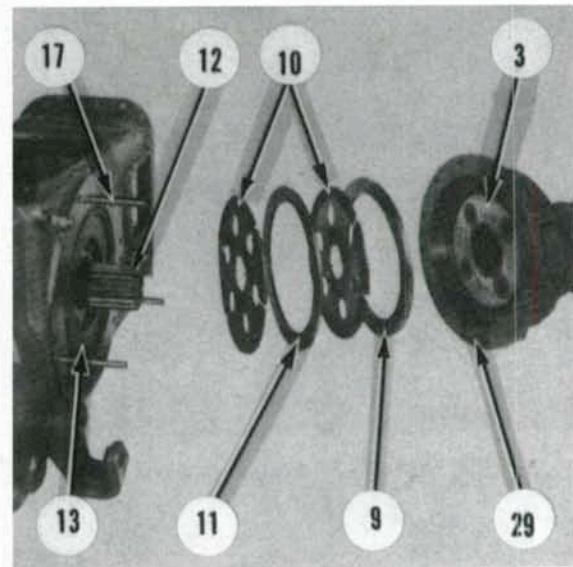

Fig. 250—View of Model TW-35 brake components. A single brake disc (10) is used on Models TW-5, TW-15 and TW-25.
**180. BRAKE PISTONS AND DISCS.** To remove brake pistons and discs on all models, refer to procedure for removing rear axle and final drive assembly outlined in paragraph 171. The brake discs can then be removed as shown in Fig. 250. Use compressed air at brake line pressure port, if necessary, to remove brake piston (13) from axle center housing.
Inspect piston for warpage, scoring or cracks. If piston is serviceable, renew inner and outer seal rings. Inspect brake plates (9 and 11—Fig. 250) for warpage or wear. Renew plates that are warped more than 0.004 inch (0.10 mm). Place brake disc (10) between brake plates. Use a feeler gage to measure clearance between discs and plates. Renew discs if clearance at any point exceeds 0.010 inch (0.25 mm). Place a straightedge across both sides of brake discs to check that splines are clear of straightedge. Renew discs if splines contact straightedge on either side.
To reassemble, lubricate brake piston and seal rings and install in axle center housing being careful not to damage seal rings. Assemble brake discs and plates on locating pins (17—Fig. 250), then reinstall rear axle and final drive assembly by following procedure outlined in paragraph 171.